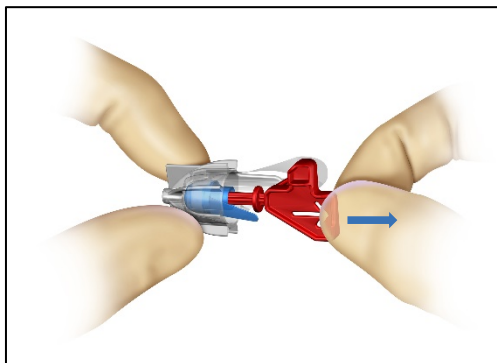

Figure 11. Packaging Tab
- a. Once the proper Earplug size has been selected, remove the Earplug from its packaging. Note that the Earplug is protected with a Cap to ensure the user's fingers do not contact the adhesive present on the surface of the Earplug (**Figures 11 and 12**). Remove the Earset from its packaging by grasping the
Handle of the Earset. Remove the red Packaging Tab and discard (**Figure 11**).
b. Hold the Earplug Cap with the Alignment Tab opposite the Fill Tubing of the Earset (**Figure 11**).